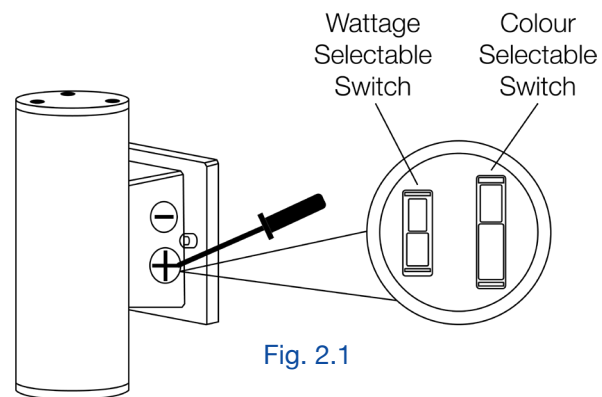

Fig. 2.1
1. The power and colour temperature switch is located on the side of the luminaire. Remove the plug to access the switch (Fig. 2.1).